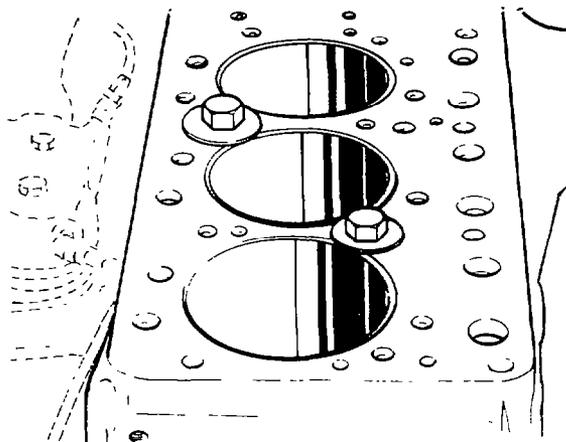

Fig. 57 — Securing Liners
- d. Secure the liners in the block temporarily, using flat washers and bolts (see fig. 57).